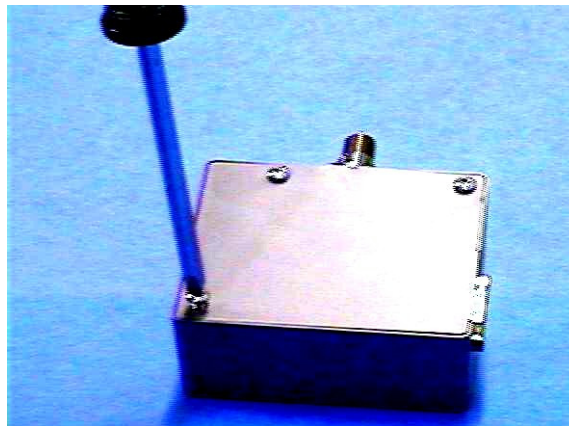

Figure B-1 Location of the Long Screw
The screw at the position shown in Figure B-1 is longer than the other two screws and must be returned to the same place when reassembling the cover.
12. Locate the longer of the cover screws and insert it in the lower left position as shown in Figure B-1 on page B-1 with the vacuum port facing upward.